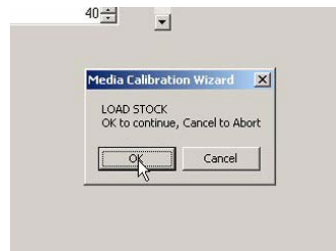

Figure 3-12: "Load Stock" Prompt
5. Select the Sensor Calibration Tab (Figure 3-12) and then click the Media Calibration Wizard button. When prompted click OK to start the calibration wizard.